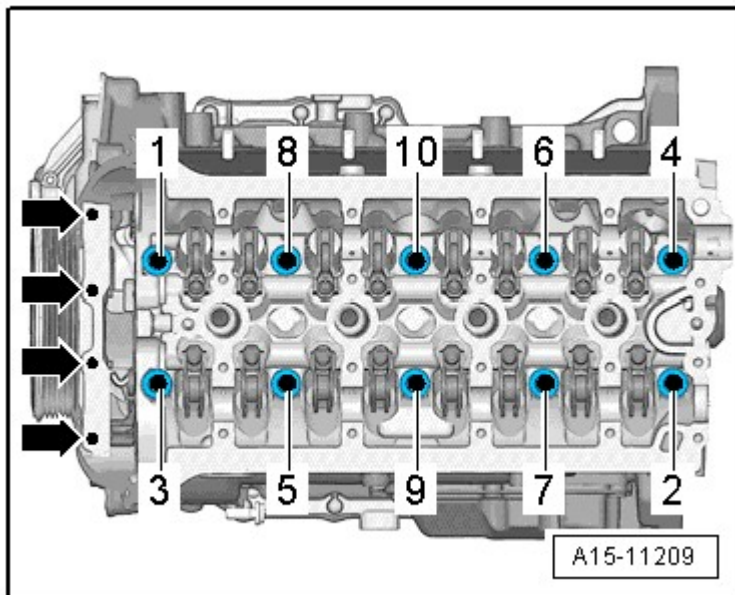

Fig. 19: Loosening Cylinder Head
- Follow the procedure when loosening. Refer to **Fig. 19**.